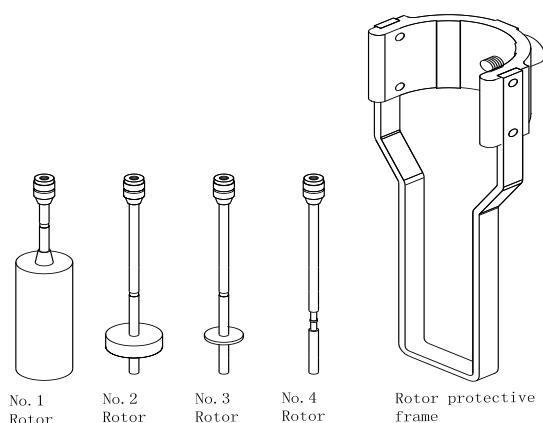

Fig. 3
6. Rotors #1~#4 equipped with the instrument are shown in Fig. 3 below.